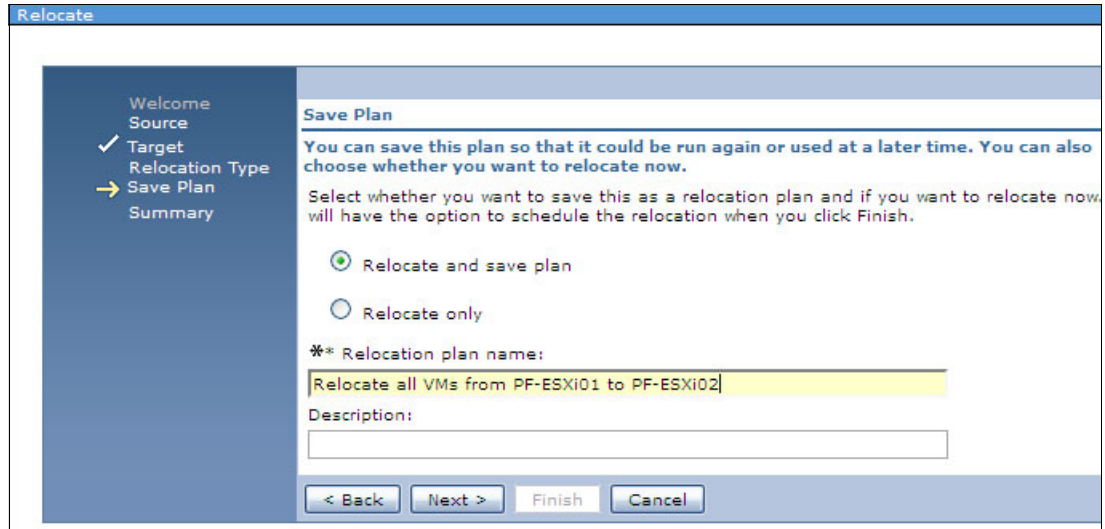

Figure 11-35 Relocate Save Plan window
4. Select **Relocate and save plan** and provide a descriptive relocation plan name, as shown in Figure 11-35.